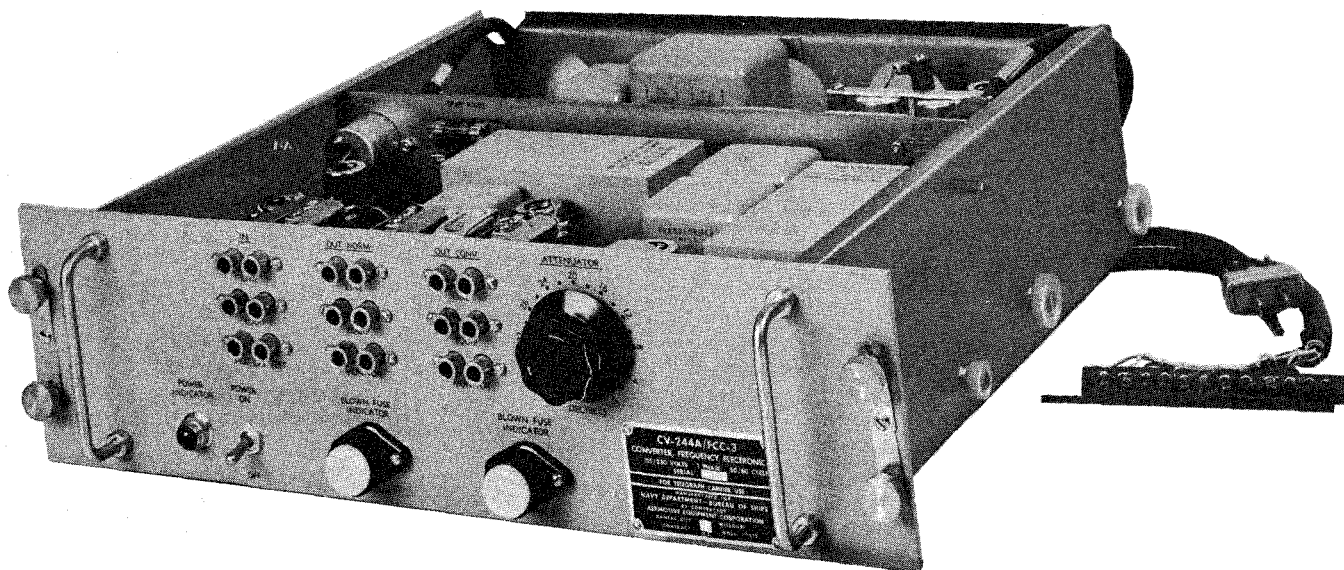

Figure 1-5. Electronic Frequency Converter CV-244A/FCC-3, Identification of
e. ELECTRONIC FREQUENCY CONVERTER CV-244A/FCC-3. - (See figure 1-5.) This unit provides an ungrounded input circuit having a nominal 600 ohm impedance and also an ATTENUATOR variable from 0 to 40 db in 2 db steps. The acceptable range of